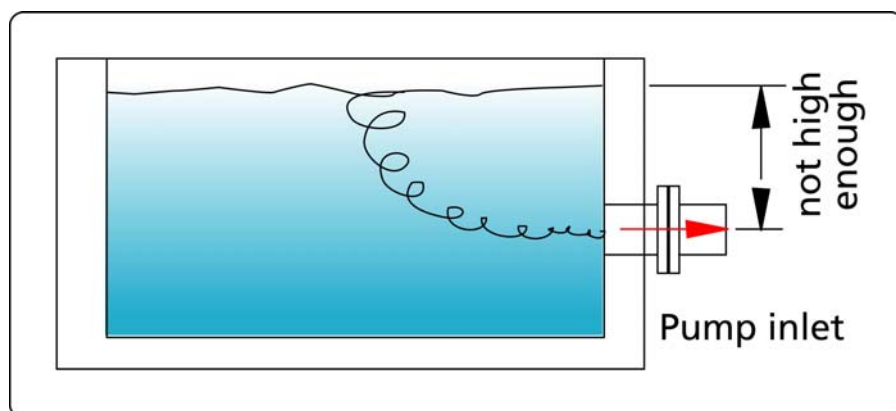

Figure 3 Insufficient submergence height leads to vortex formation.
6. Insure that the pump inlet pipe is sufficiently submerged to avoid vortex formation which entrains air into the pump suction (see Figure 3).